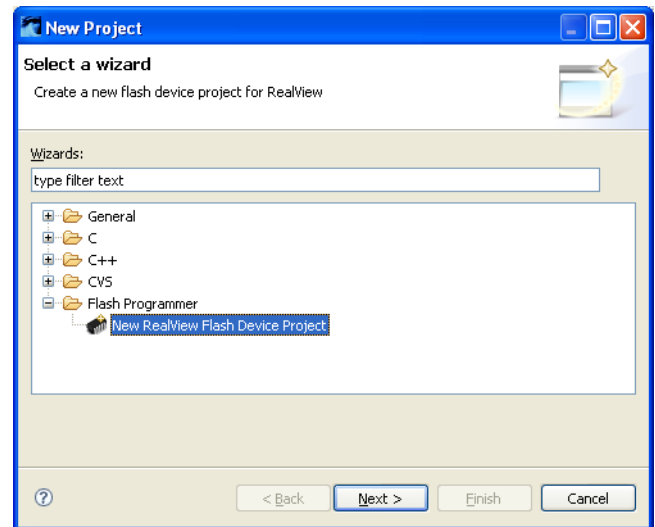

Figure 6-12 New flash device project
2. Select **Flash Programmer** → **New RealView Flash Device Project**, see Figure 6-12. Click on **Next**.